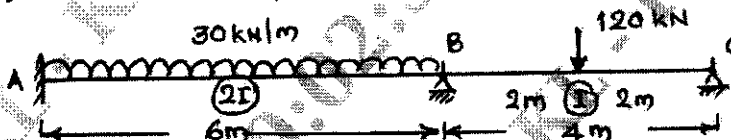

Fig.Q7
- 7 Analyse the continuous beam shown in Fig.Q7 by flexibility method using system approach. Support B sinks by 5 mm sketch BMD, SFD and elastic curve. Take  $EI = 15 \times 10^3 \text{ kN-m}^2$ .